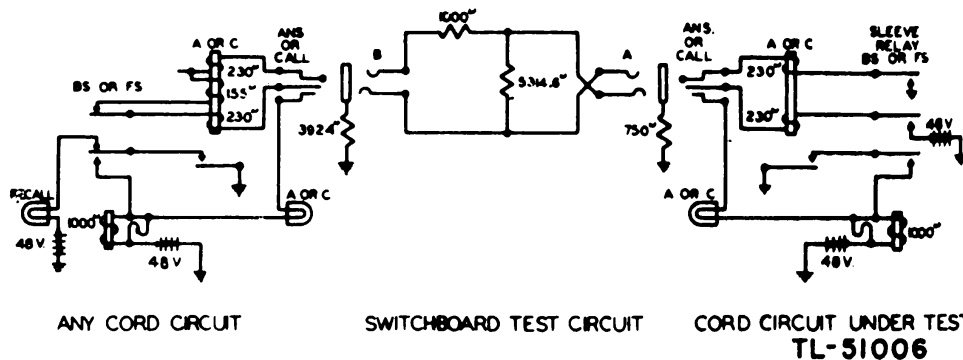

Figure 53. Operate test of sleeve relay, Switchboard BD-110-(), functional diagram.
(8) OPERATE TEST OF SLEEVE RELAY (fig. 53). Connect the plug of the cord under test to the A jack and connect the plug of any other cord to the B jack. If both the sleeve relay of the cord circuit under test and the supervisory relay of the cord circuit associated with the B jack operate satisfactorily, the recall lamp of the latter cord circuit will light, and the associated sleeve relay should remain inoperative. If the recall lamp associated with the B jack lights, there is no trouble.